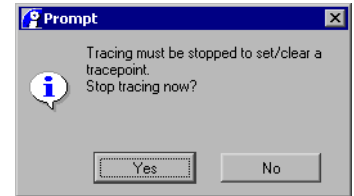

Figure 2-4 Prompt displayed on a running target (tracepoints)
- When setting or clearing tracepoints, RealView Debugger displays the prompt shown in Figure 2-4.